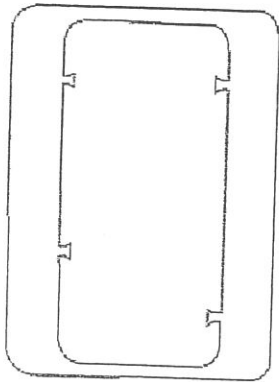
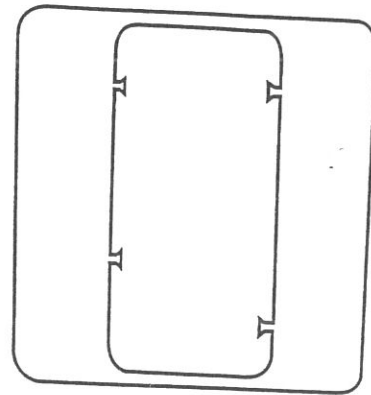

Fig. 5 - Thin Decorative Backplate
Fig. 8 - Large Decorative Backplate
**DECORATIVE BACKPLATE** — Supplied is a thin decorative backplate (see Fig. 5), to hide any marks/screw holes left from the previous thermostat. This decorative backplate (or beauty ring) can be used in either the recess or surface mount installation by snapping it onto back of recessed mount backplate or surface mount backplate before securing to wall. See Fig. 8 and 9 for a larger decorative backplate P/N SYSTXXOLBP01 (5.75" wide X 6" tall), which can be ordered separately.